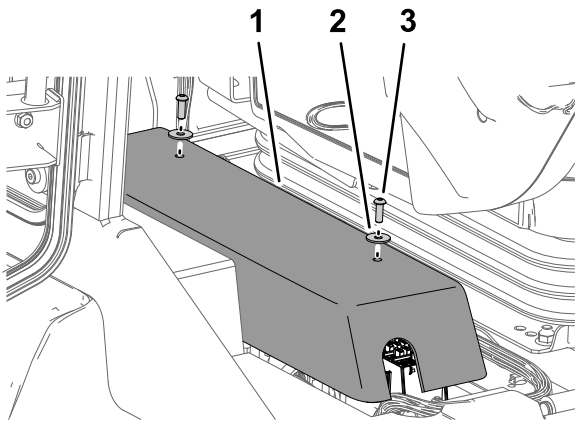

Figure 41
1. Remove the 2 socket-head bolts (1/4 x 3/4 inch) and 2 washers (1/4 inch) that secure the controller cover for the power center to the relay mount, and remove the cover (Figure 41).
4. Align the holes in the controller cover with the holes in the relay mount (Figure 41).
5. Assemble the controller cover to the relay mount with the 2 socket-head bolts (1/4 x 3/4 inch) and 2 washers (1/4 inch) that you removed in step 1 (Figure 41).